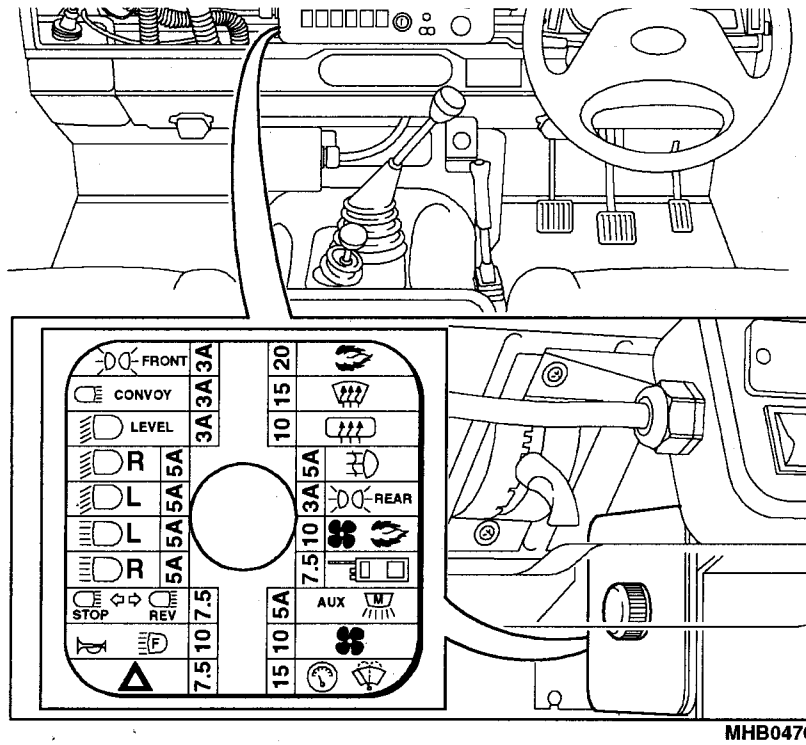

Fig 7 Main fuse box label
- 10.3 Replace the failed fuse, ensuring the correctly rated one is fitted. (Check the fuse label (Fig 7) inside the cover for the correct rating).